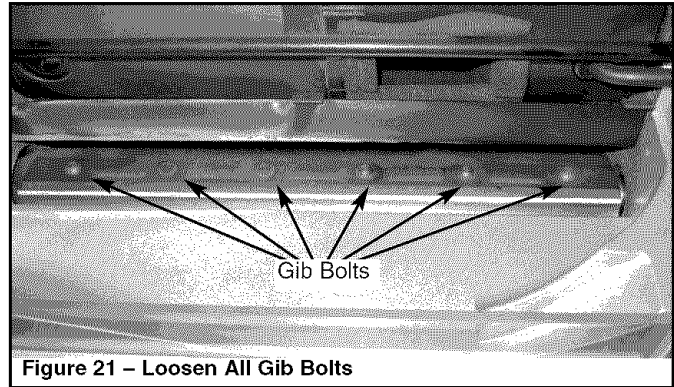

Figure 21 – Loosen All Gib Bolts
- Remove all six bolts from gib. Lift gib from the blade using the two magnets (See Figure 21).